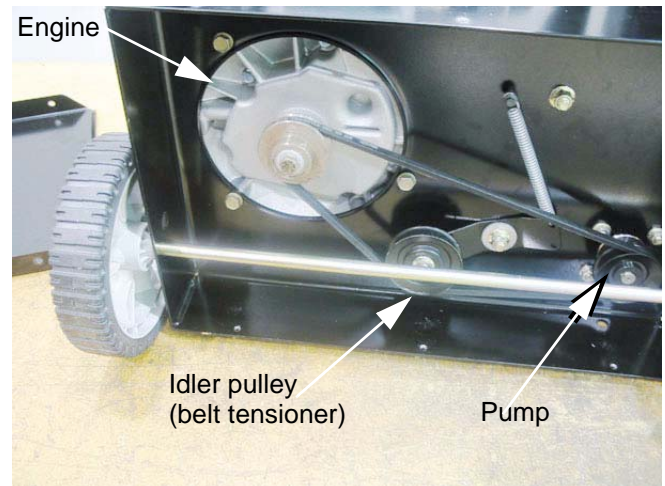

Figure 3.9
5.2. Belt slippage See Figure 3.9.